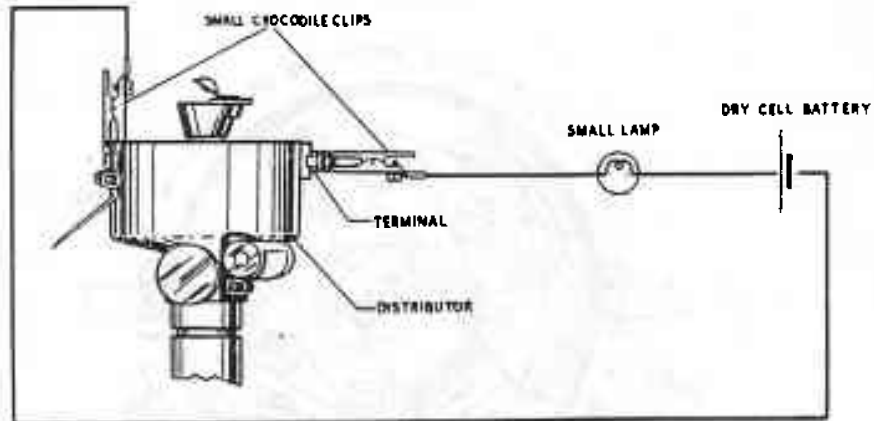

FIG. M14. CHECKING CONTACT BREAKER.
- (a) With the ignition switched on and a small bulb connected in series with the contact breaker points, see Fig. M14. In this case the bulb will light as the contact points "break".